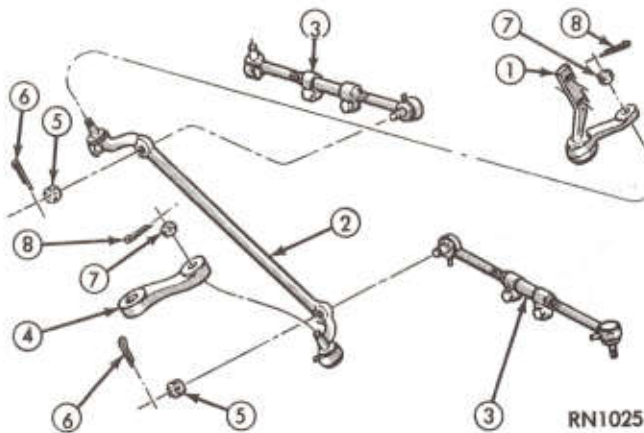

Fig. 13—Steering Linkage Assembly
STEERING LINKAGE (Fig. 13)
LEGEND FIG. 13
- (1) Remove tie rod ends from steering knuckle arms (Fig. 13). **Use care not to damage seals.**
- (2) Remove inner tie rod-ends from center link.
- (3) Remove idler arm from center link.
- (4) Remove idler arm bracket from frame.
- (5) Remove steering gear arm from center link.
- (6) Remove steering arm from gear.